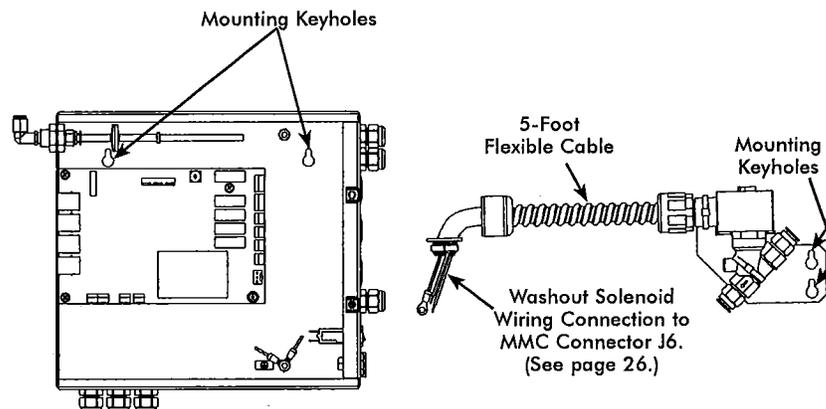

Figure 9. MOJAVE Master Controller and Washout Solenoid Mounting
3. **Heat Exhaust Vent Connection.** Refer to Figure 9, item (3) and connect the vent hose (P/N 56057) between the pump heat exchanger and the facility vent line. Secure with two hose clamps (P/N 89324).
5. **Tank Drain to Facility Sewer Connection.** Install the last connector adapter (P/N 57253S) to the tank outlet drain. Connect the last section of 1 1/2" ID, clear hose cut for installation to the adapter. Secure with one 1-9/16"- 2-1/2" diameter hose clamp (P/N 57169). Connect unconnected hose end to the facility sewer drain as necessary. See Figure 9, item (5).
6. **Tank Washout Port to Facility Water Connection.** Refer to Figure 9, item (6) and install a length of 3/8 inch tubing (P/N 19271) between the washout port and the water shutoff valve. The tubing is provided with Mojave Master Controller Accessory Kit (P/N H5131).